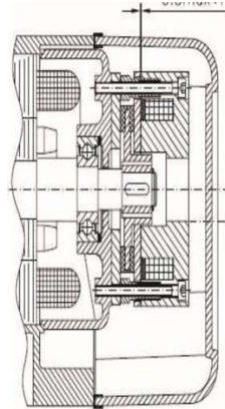

Fig.6
- **Brake gap:** Check brake gap. When the brake gap is above the limit of 0.3mm the brake gap should be readjusted. Fig. 6.